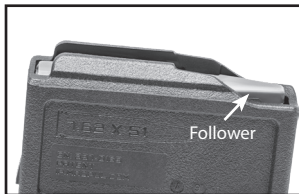

Figure 20-1
- A. Press the rim of the cartridge on the follower in front of the feed lips (Figure 20-1).